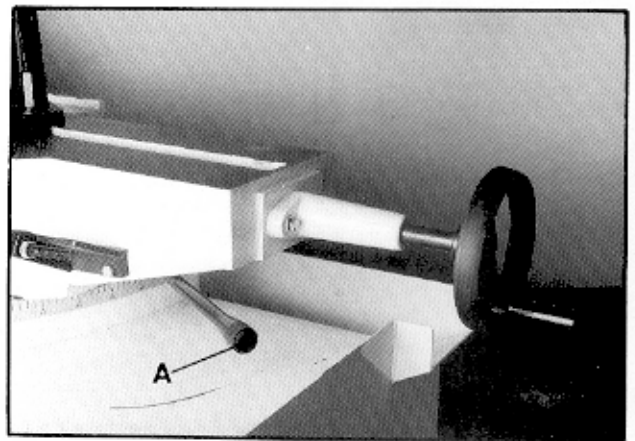

Fig. 13
2. Pull the handle (A, Fig. 13) toward the front of the saw.